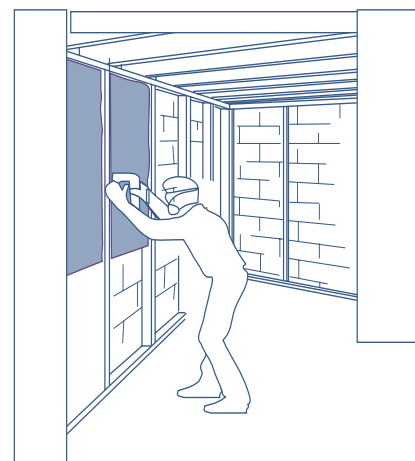

Figure 16: Cut insulation to extend from the top plate to at least 2 feet below ground level.
- 2- by-4 inch lumber for vertical nailers (Figure 16).